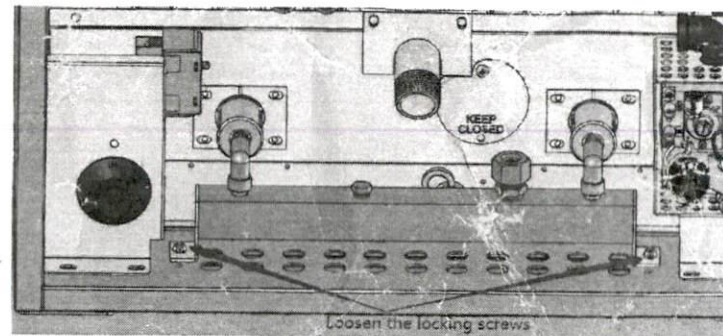

Fig. 1
2. Open the door, the manifold and control will be visible. As per Fig. 1, loosen the locking screws of the manifold pipe.